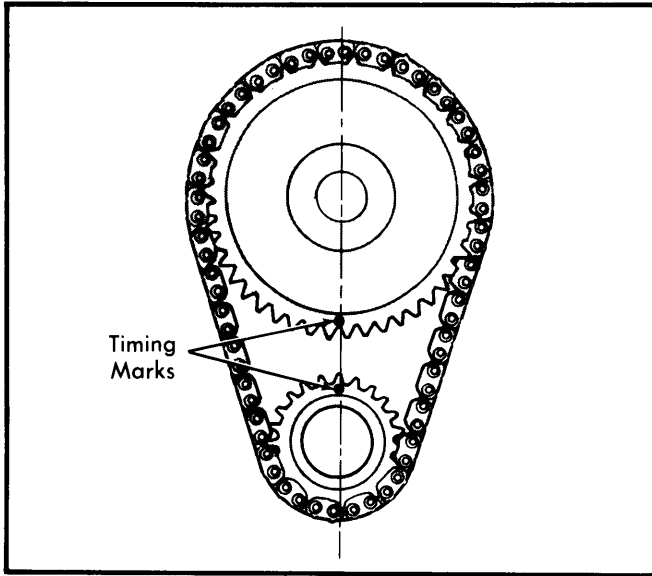

Fig. 9 Timing Chain Sprocket Alignment
**Removal** — Crank engine until timing marks are aligned. See Fig. 9. Remove camshaft sprocket bolt and washer. Slide both sprockets and timing chain forward, removing them as an assembly.
**Installation** — Install timing chain on sprockets with timing marks positioned according to Fig. 9. Slide both sprockets and timing chain onto engine. Install camshaft sprocket bolt and washer. Tighten bolt, and oil timing chain. Install other parts previously removed.